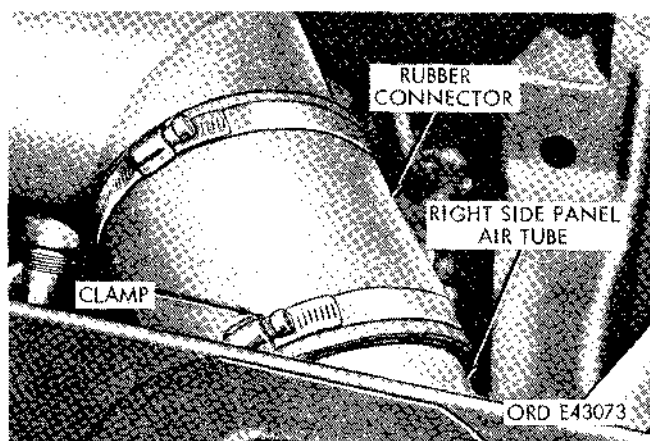

Figure 2-77. Disconnecting rubber connector from air tube.
(3) Loosen the clamp securing the rubber connector to the air tube, Separate the connector from the air tube (fig. 2-77).
(2) Slip the rubber connector over the right panel air tube end, and tighten the clamp (fig. 2-77) securing the connector to the tube.